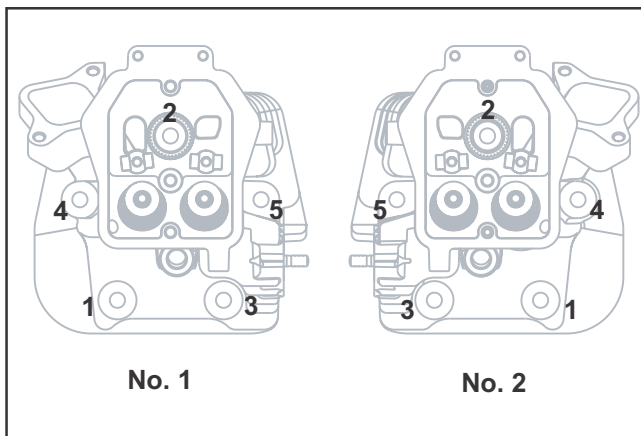

Figure 10-50. Cylinder Head Fastener Torque Sequence.
4. Torque the hex flange screws in two stages; first to 22.6 N·m (200 in. lb.), finally to 45.2 N·m (400 in. lb.), following the sequence in Figure 10-50.